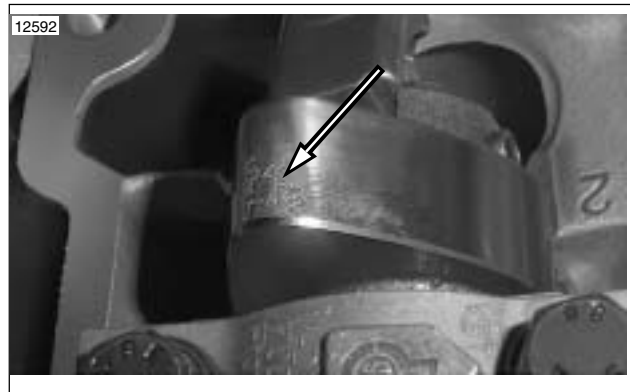

Figure 3-28. Camshaft Toe Spalling
1. See Figure 3-28. This figure shows camshaft spalling within and acceptable specification on the toe of the camshaft lobe.